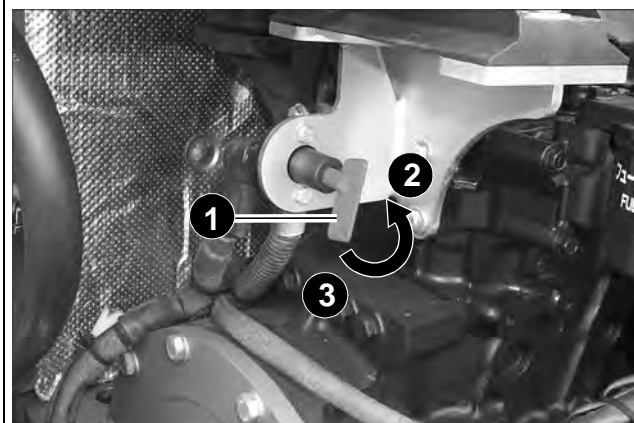

Figure 3-10 Battery Disconnect Switch
A battery disconnect switch is located in the engine compartment under the hood. The switch allows electrical lock-out of all functions of the excavator. See Figure 3-10. To disconnect battery and lock-out all electrical functions, turn key (1) of the battery disconnect switch to position (2) and remove it. To reconnect battery and turn on all electrical functions, insert key (1) into the battery disconnect switch and turn it down to the notched position (3).